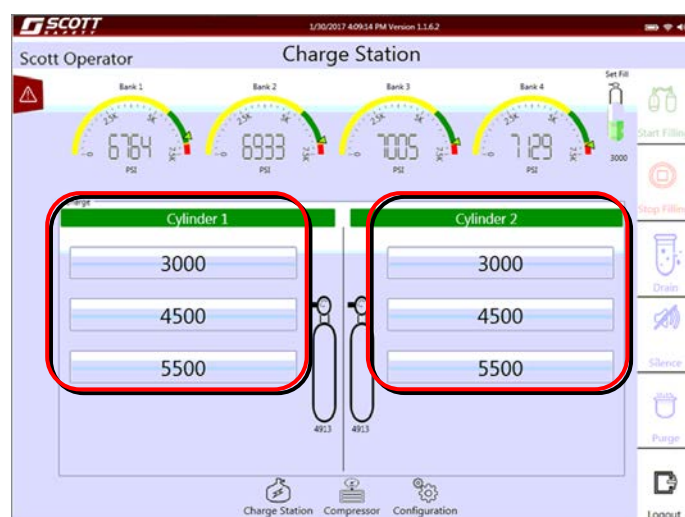

Figure 3.7-2: NON RFID
2. Filling a combination of two Non RFID cylinders is possible with the RevolveAir Connect charge station. See Figure 3.7-2.